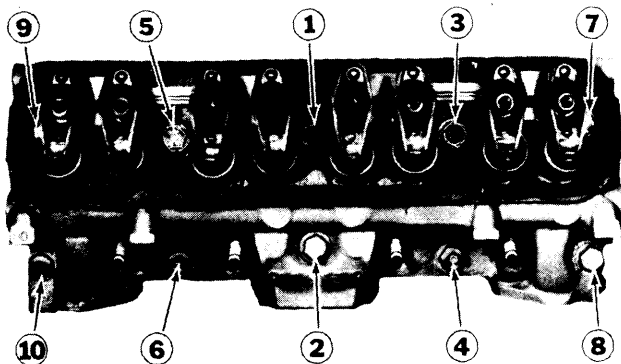

Fig. 1 Cylinder Head Tightening Sequence
2) Install cylinder head. Tighten bolts in sequence. See Fig. 1. Some 301" engines require a gasket, others only sealant.